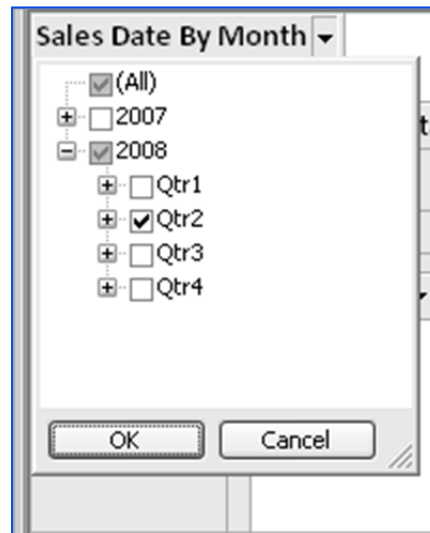

Fig. 2.3.19. Select the required year
- Click the dropdown arrow of *Sales Date by Month* field. Deselect the *Select All* option and open the plus sign of year 2008, and select Qtr2 from the year 2008, as shown in Figure 2.3.19.